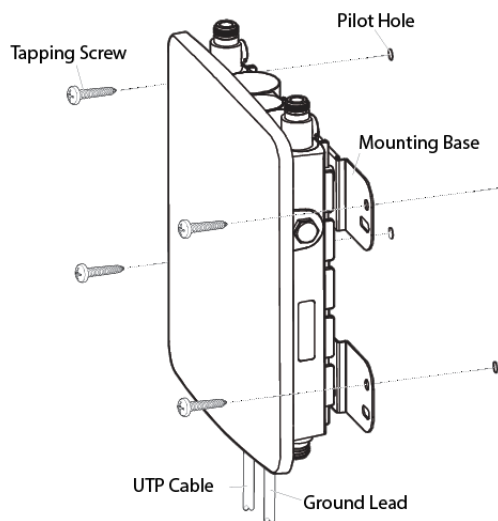

Figure 12. Installing to the Wall Using Tapping Screws
4. Drive the tapping screws into the holes made in Step 2 to install the access point. See Figure 12 on page 33.